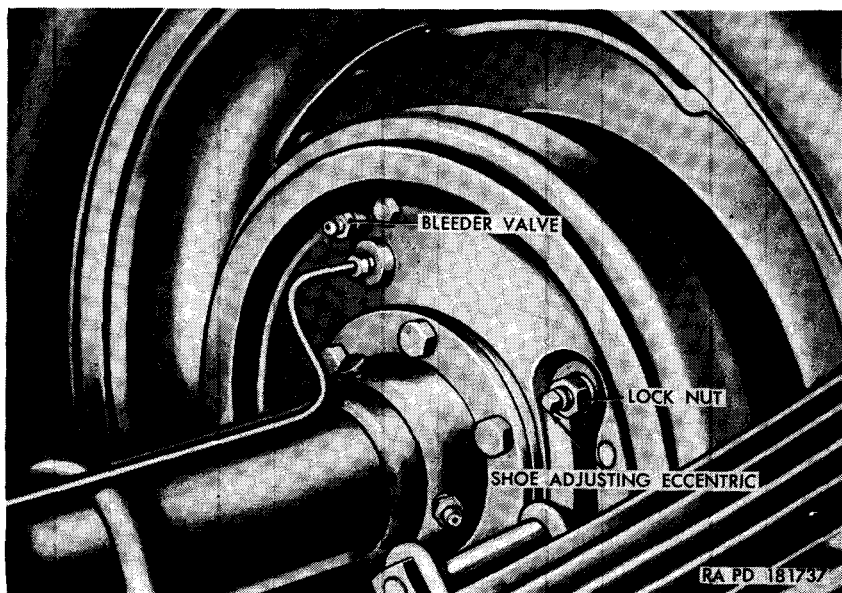
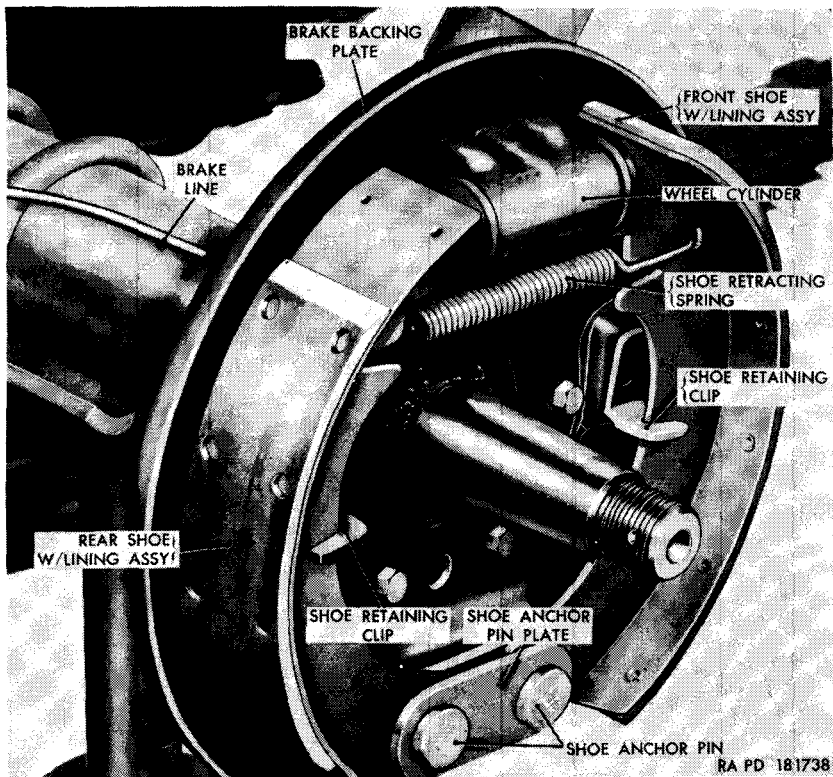

Figure 115. Brake shoe adjusting eccentric and bleeder valve.
Figure 116. Service brake assembly—brake drum removed (right rear shown).
- (2) Loosen the nut (fig. 115) on the shoe adjusting eccentric. Place a wrench on the shoe adjusting eccentric so that the wrench extends upward. Rotate the wheel and turn the shoe adjusting eccentric, moving the wrench handle away from the axle until a slight drag of the drum on the brake shoe is felt. Back off the eccentric until drag is no longer felt and the wheel turns freely. Hold the shoe adjusting eccentric in this position with the wrench and tighten the nut. Rotate the wheel again to make sure that the wheel still turns freely. Repeat the operation on the other three wheels. Remove the vehicle from the safety stands.
- (1) Remove wheel (par. 237).
- (2) Rotate the brake drum until the slotted opening in the drum is at the lower end of a brake shoe and insert a 0.005-inch feeler gage through the opening between the lining and the drum. If the clearance is greater or less than 0.005-inch, adjust to proper clearance. To adjust the lower end of a shoe, loosen the nut on the shoe anchor pin (fig. 116) on the inner side of the brake backing plate. Turn the shoe anchor pin with a wrench until the proper clearance is obtained. Hold the shoe anchor pin with the wrench and tighten the nut on the anchor pin. Repeat the operation on the second brake shoe and anchor pin.
- (3) Rotate the brake drum until slotted opening in the drum is at the upper end of a brake shoe and insert a 0.008-inch feeler gage through the opening between the lining and the drum. If the clearance is greater or less than 0.008-inch, loosen the nut (fig. 115) on the shoe adjusting eccentric. With a wrench, turn the shoe adjusting eccentric until the proper clearance is obtained. Hold the shoe adjusting eccentric with the wrench and tighten the nut. Repeat the operation on the second brake shoe. Rotate the drum and again check clearances.
- (4) Install wheel (par. 228 or 256).
- (5) Repeat the procedure for the other three wheels.
d. Brake Shoe Removal (fig. 116).
- (1) Remove wheel (par. 256).
- (2) Loosen the nuts (fig. 115) on the two shoe adjusting eccentrics and turn the shoe adjusting eccentrics toward the axle so that the low sides of the eccentrics are against the brake shoes.
- (6) Pull the brake shoes out from the wheel cylinder, free from the shoe retaining clips, and remove the shoes from the vehicle.
e. Brake Shoe Installation (fig. 116).
- (1) Position the brake shoes on the backing plate, sliding the shoes into the shoe retaining clips and the wheel cylinder. The shoe with the long lining goes to the front.
- (2) Insert shoe anchor pin cam into the hole in each shoe. Place the shoe anchor pin plate in position over the cams in the shoes. Insert the shoe anchor pins through the plate, cams, and backing plate. Place a lockwasher on each shoe anchor pin on the inner side of the backing plate and screw nut on each pin but do not tighten. Hook the shoe retracting spring into each brake shoe and remove the brake wheel cylinder clamp.
- (3) Position the brake drum on the hub, align the holes in the drum with the holes in the hub, and install the three $\frac{1}{4}$ x $\frac{5}{8}$ bolts.
- (4) Adjust the brakes (*c* above) and install wheels (par. 256).
(fig. 116)